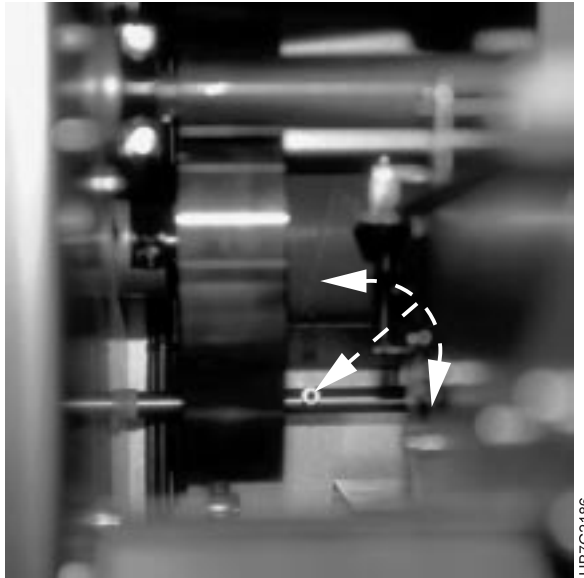

Figure 284. Alternate Location of Backup Roll Pressure Handle
- 15** If you found the backup roll pressure handle inside the back access doors of the fixed tower, turn the lever, as shown in Figure 284 on page 352, until it spins freely without any resistance.